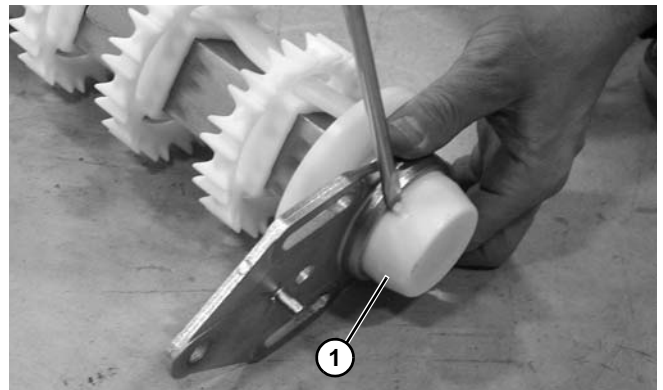

Figure 55
6. Remove bearing cover (**Figure 55, item 1**).